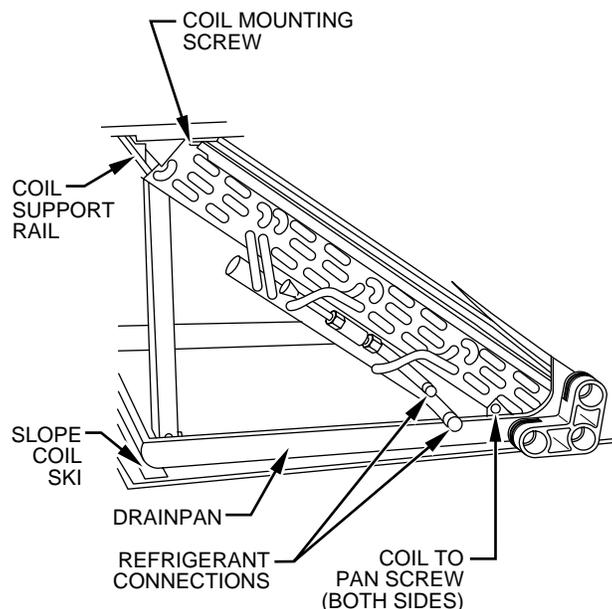

Fig. 44—Slope Coil Component Location
8. Place assembly on a flat surface. Remove 2 screws securing coil support columns to pan. (See Fig. 44.)
12. Remove coil top seal. (See Fig. 44.)